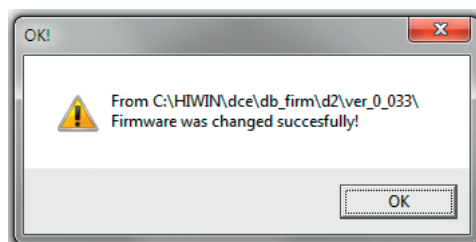

Fig. 6.70 “Upgrade/Downgrade firmware” – “OK”
- ▶ A new message window confirms that the firmware update has been successfully completed (see Fig. 6.70).